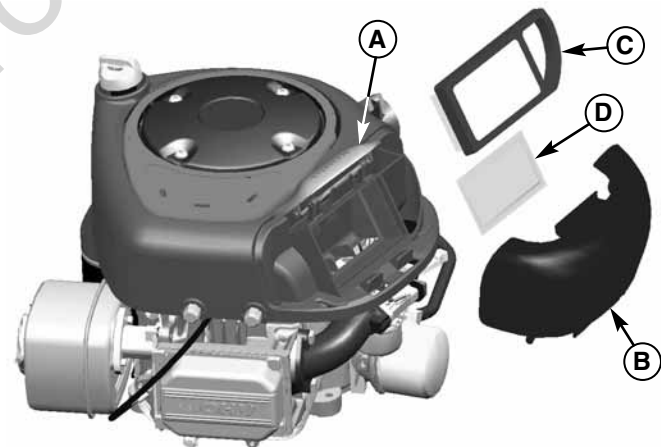

Figure 38. Air Filter Service - Briggs & Stratton Single Cylinder Models
2. Remove the cover (B). Remove the filter (C, Figure 38) and pre-cleaner (D).
3. Install the pre-cleaner (D) with the mesh side up. Install the filter (C) as shown.
4. Install the cover (B, Figure 38) making sure the tabs are inserted into their slots. Secure with the latch (A).